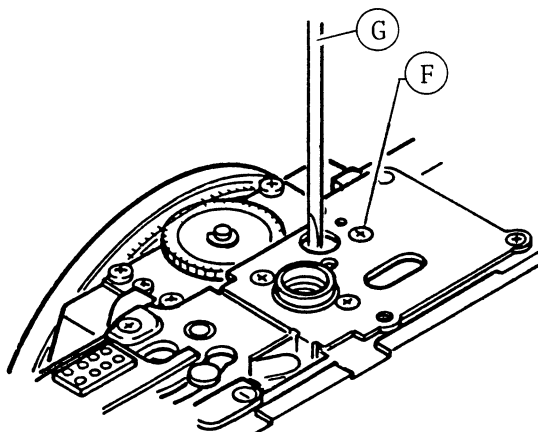

Fig. 22
1. Loosen the (F) fixing screw for the switch.
2. Insert a NO. 3 or 2 screw driver into the (F) hole and adjust the position of the switch base by the screw driver. (Fig. 22)
3. After adjusting tighten the (F) screw.